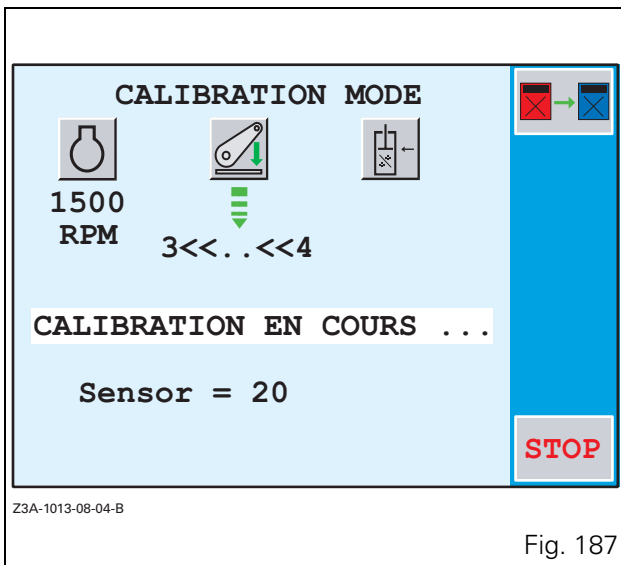

Fig. 187
- Press the key \llcorner_6 . Calibration starts and a new window is displayed (Fig. 187).